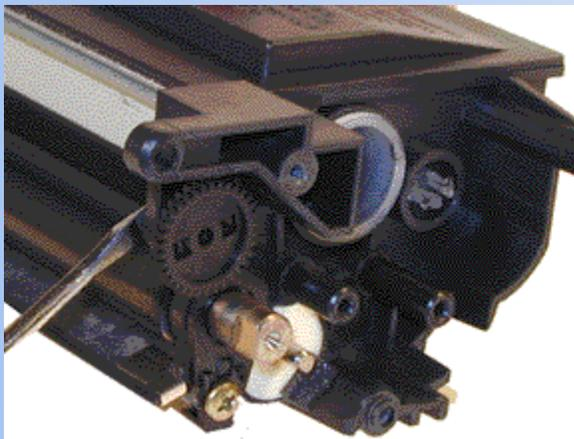

FIGURE 22
16. Remove the gear from the Developer roller area by pressing in on the tab. See Figure 22